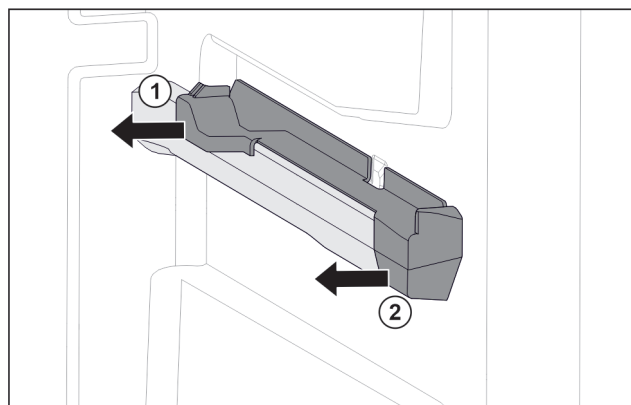

Fig. 120 Attachment on the right molded rib
- Pull off attachment at the back sideways. Fig. 120 (1)
- Pull off attachment at the front sideways. Fig. 120 (2)